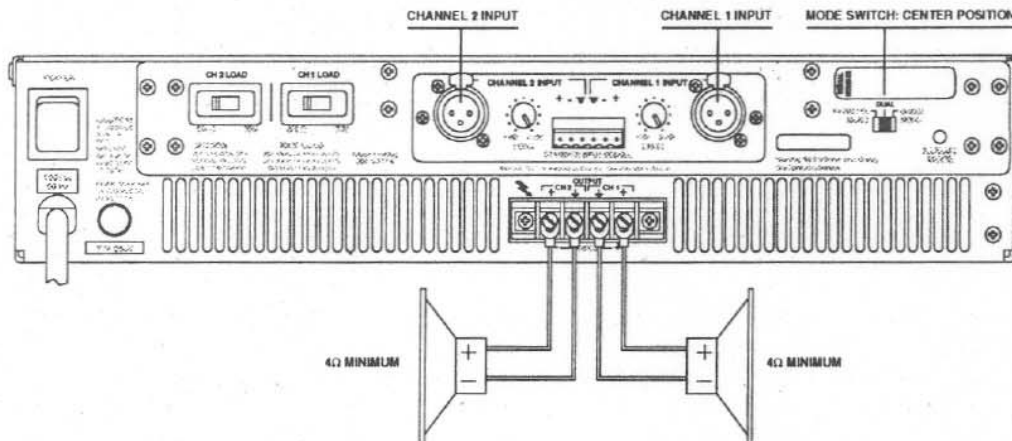

Figure 2a Dual (Stereo) Mode Connections
**Dual Mode** - In this configuration the amplifier is operating as two independent power amplifiers. Each speaker load can be independently configured for 8/4-ohm or 70-Volt line operation using the load switches located to the left of the input module (Figure 2a).